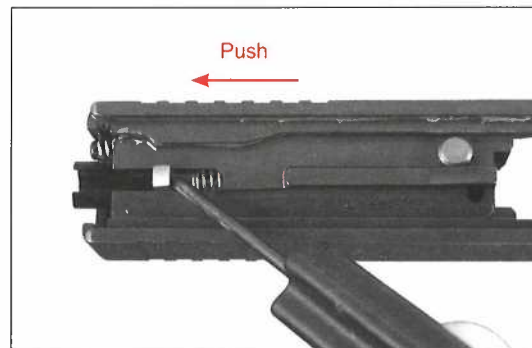

Fig. 26
- Remove the firing pin assembly by lifting upwards on the spacer sleeve or firing pin lug. (Fig. 26/27)